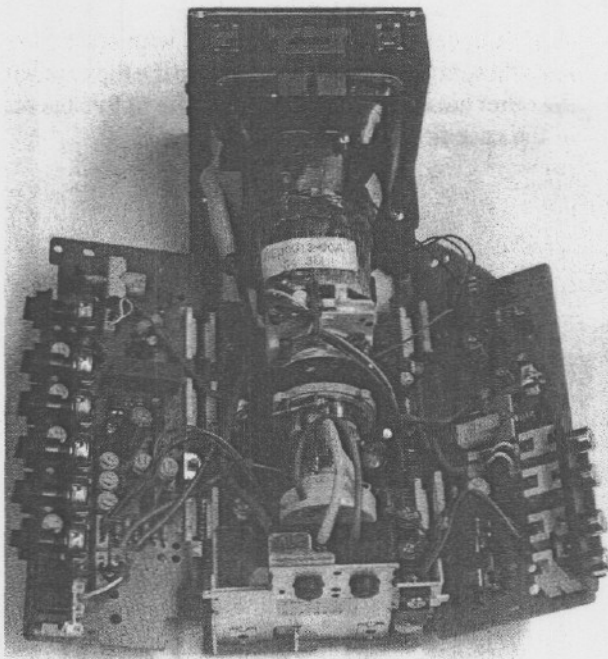

Figure 3-5. Picture monitor disassembled for service
2. Place the unit right side up on the work surface and pry out two plastic canoe clips from each of the side-mounted PC boards. Open the side-mounted boards for service as shown in Figure 3-5.